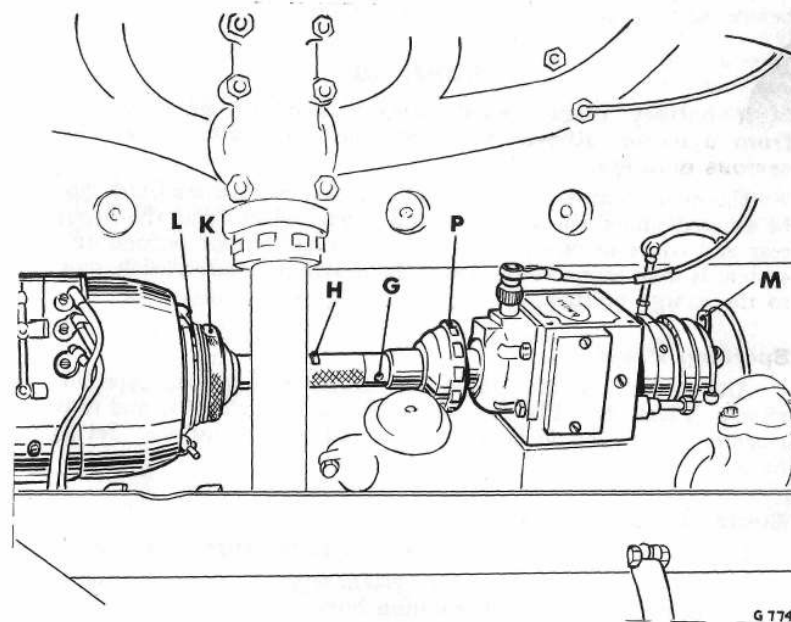

Fig. 27.—MAGNETO.
- (3) Press down the catch **H** (Fig. 27) projecting from the magneto drive shaft and turn the shaft gently by hand until the teeth are felt to engage.